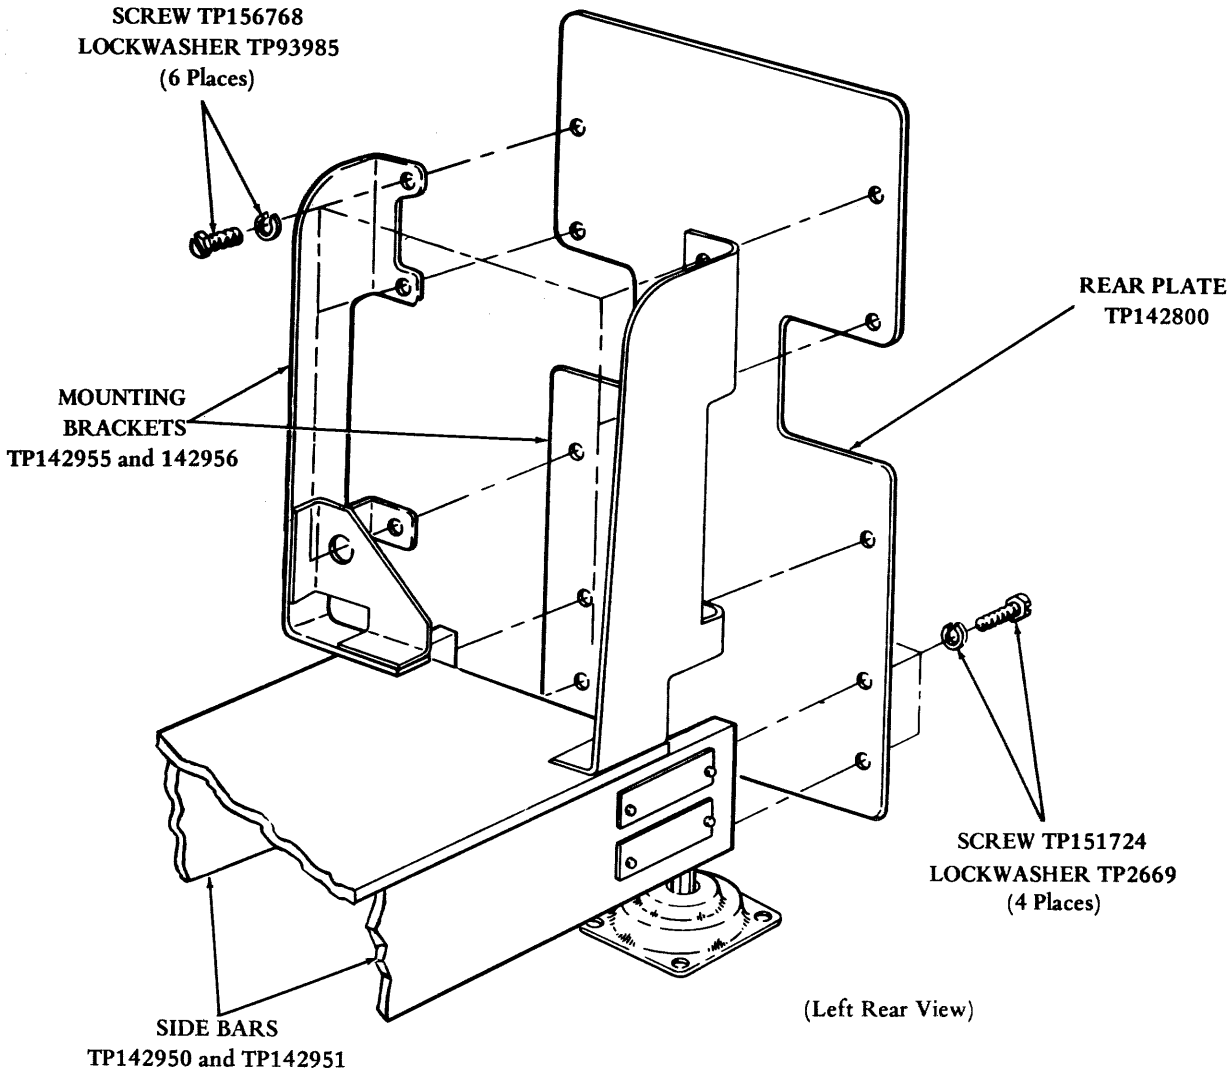

Figure 1 - Punch Unit Rear Plate Mounting
**2.07** Remove the punch unit from the wooden pallet. Mount it on the base with mounting hardware provided in a muslin bag attached to the punch unit. Six screws (TP156768) and lockwashers (TP93985) should pass from the rear through mounting brackets (TP142955 and TP142956) on the base into the upper part of rear plate TP142800 of the punch unit (Figure 1). Four screws (TP151724) and lockwashers (TP2669) should pass from the front through the lower part of the rear plate into side bars (TP142950 and TP142951) of the base. Connect the male receptacle of the punch unit cable to the female receptacle on the base. Mount the chad container as instructed in 2.02.